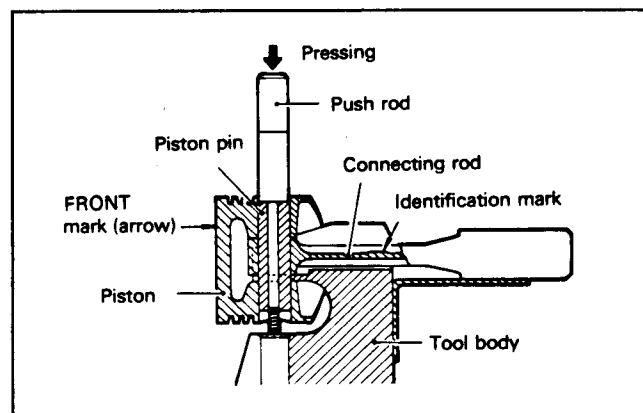

Figure 87
11. To remove the piston from the connecting rod press the piston pin from each piston. Use the piston setting tool (Fig. 87).